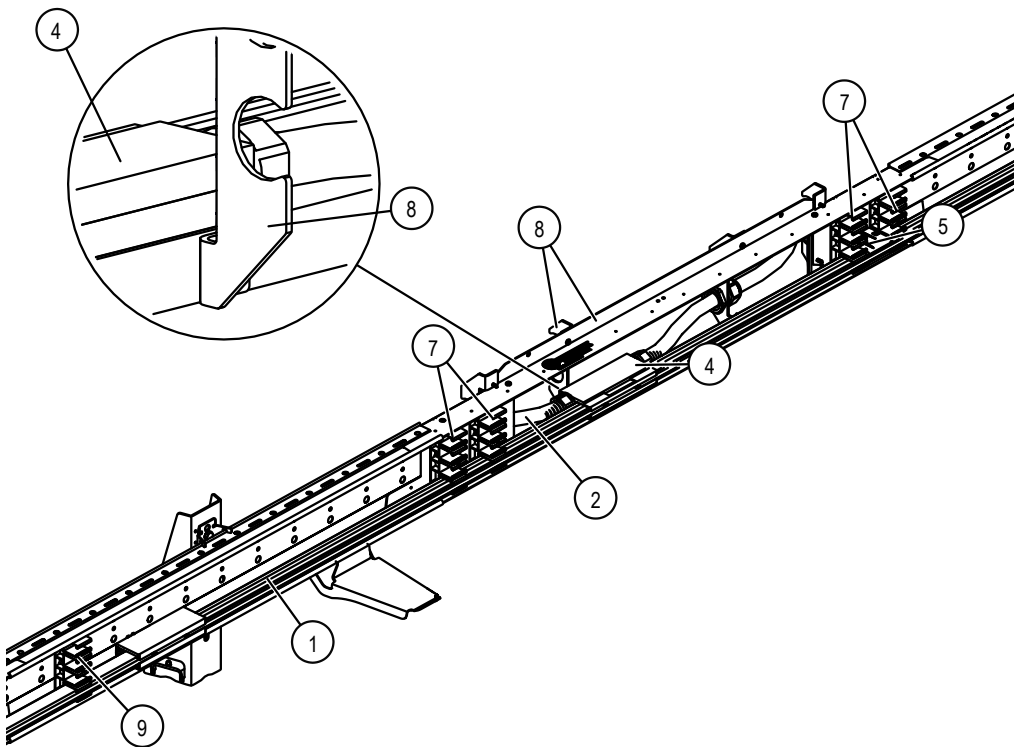

Fig. 51: Install conductor rail (1) on ProShell support profile
4. Hang the conductor rails with the preassembled line feed and anchor point (1) on the hanger clamps (7) on the right and left of the fastening frame (8). Start with the lower-most conductor rail pole and observe the PE position (Conductix-Wampfler recommends attaching the PE rail as the last or lower pole (viewed from above)) (see Fig. 51).
5. Lay the connecting cables (2) through the fastening frame to the rear (8) so that the line feed cap (4) fits into the cut-out of the fastening frame (8) and the preassembled anchor points (5) are positioned between their hanger clamps. In addition, hang the connected conductor rails on the additional hanger clamps (9) (see Fig. 51).